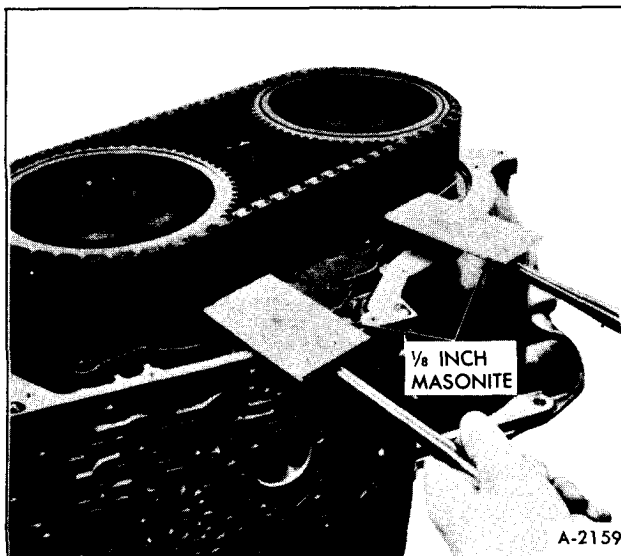

Figure 42—Removing Tight Sprockets
**NOTE:** If the sprockets are difficult to remove, place a small piece of fiberboard between the sprocket and sprocket support cover. Using a 1/2 x 9 inch pry bar, alternately pry upward under each sprocket on sprocket support cover. Do not pry on the guide links or the aluminum case. Pry only on the sprockets, Figure 42.